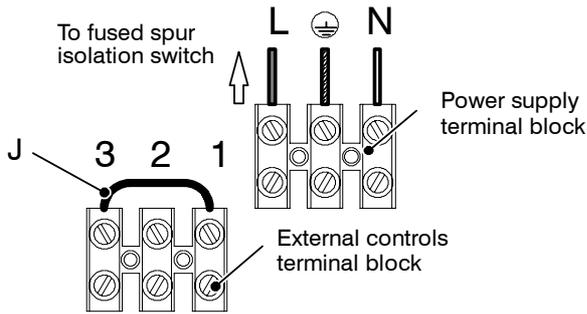

Fig. 6.12
- 6 Connect the electrical supply flexible cord coming from the fused spur isolation switch to the power supply terminal block of the boiler (Fig. 6.12) keeping the same connections for the live (brown wire) and the neutral (blue wire). External 3 A fuse or fused plug with same current rating is recommended.
When connecting any type of external control, the link J in Fig. 6.12 must be removed.